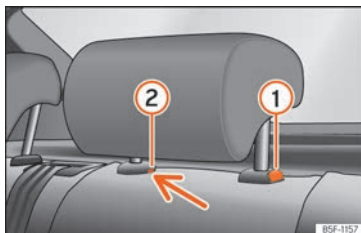

Fig. 118 Rear headrest: removal.
- Press button »» Fig. 118 ①, while simultaneously pressing on the security hole ② with a flat screwdriver a maximum of 5 mm wide, and remove the headrest.